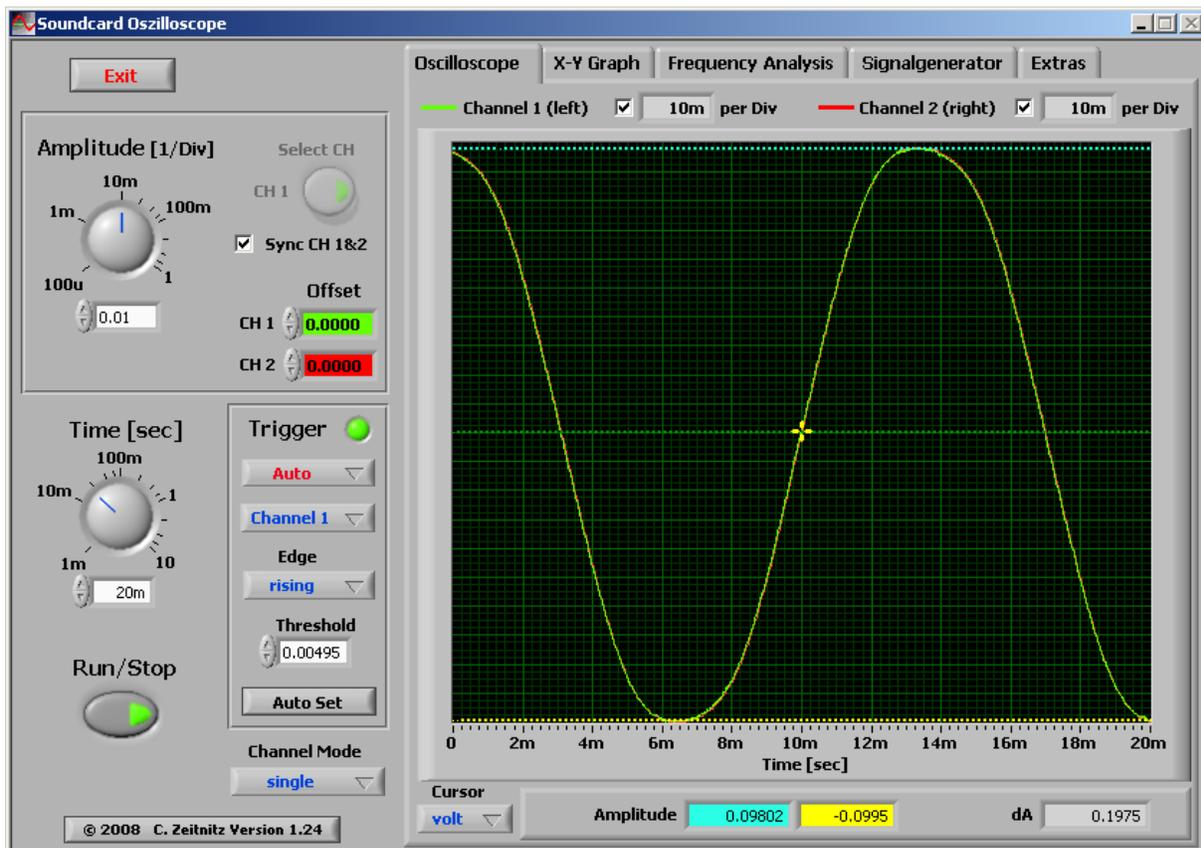

Figure 8: Using voltage cursors to measure 1.975 volts peak-to-peak in the 10x mode.
6. Use the voltage cursors to measure the peak-to-peak voltage. In this example, we measure 0.1975, multiplied by 10, because we are using the 10x attenuator circuit. This is about 1.975 volts, which is within experimental error of the expected 2.00 volts. See Figure 8.